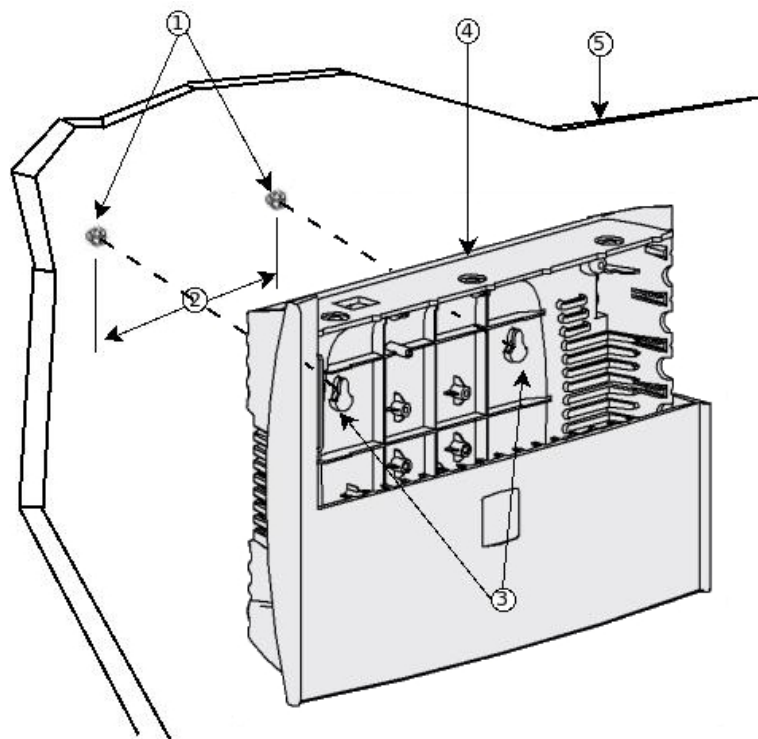

Fig. 8: Wall-mounting features on the Teldat V router
Step 2: Hang the router on the screws as shown (see Fig. 8 on page 9) for safety reasons.